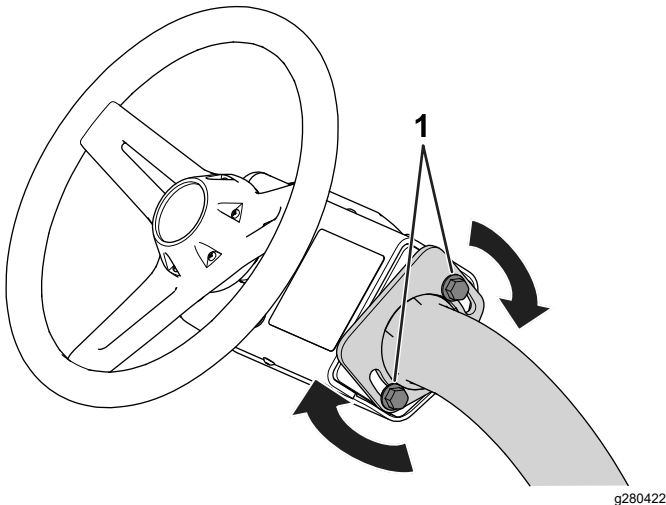

Figure 28
1. Loosen the bolts (Figure 28) that secure the steering-wheel assembly to the steering arm.
3. Tighten the bolts (Figure 28) to secure the steering-wheel assembly in your adjusted position.